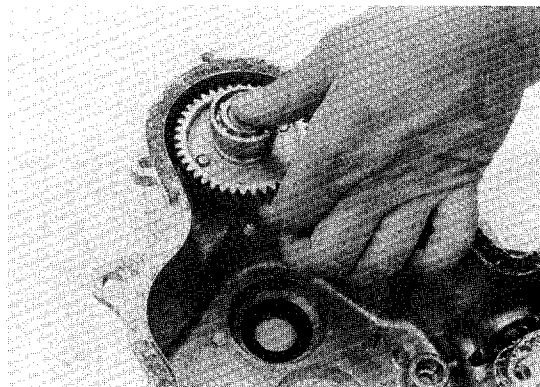

Figure 10-8
1. Remove entire governor gear assembly (1-5, 8, 9) by placing finger under governor gear (3) and pushing on weights to hold governor sleeve (8) in place (Figure 10-8).
2. Remove spacer (9) and governor sleeve (8).
3. Remove bearing (1), spacer (2) and governor gear (3) from governor shaft (4) by pressing off.